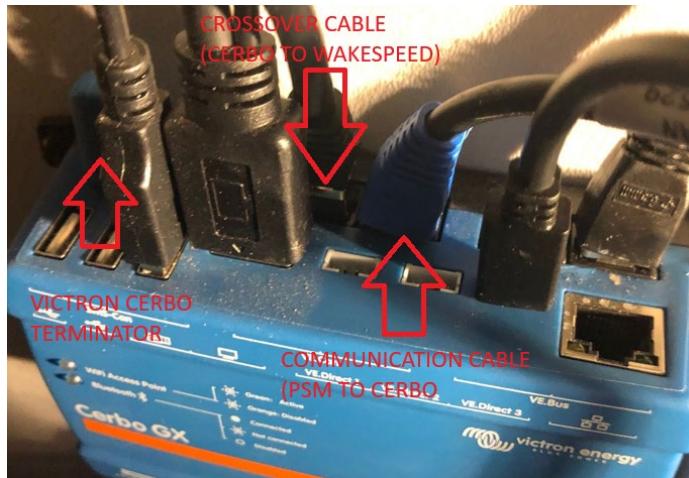

Figure 6A
- Plug the communication cable into the appropriate CAN inputs on the Victron Cerbo as shown in Figure 6A & 6B.
- Plug the crossover cable, part 5176915, into the Victron Cerbo as shown in Figure 6A & 6B. NOTE: Ensure the appropriate ports are used. The VE.CAN ports are in the image below. DO NOT use the one next to the inverter cable.